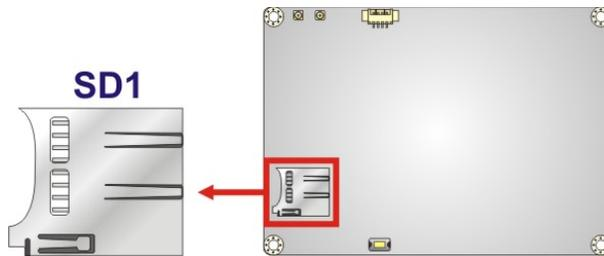

Figure 3-10: microSD Slot Location
- CN Location:** See **Figure 3-10**